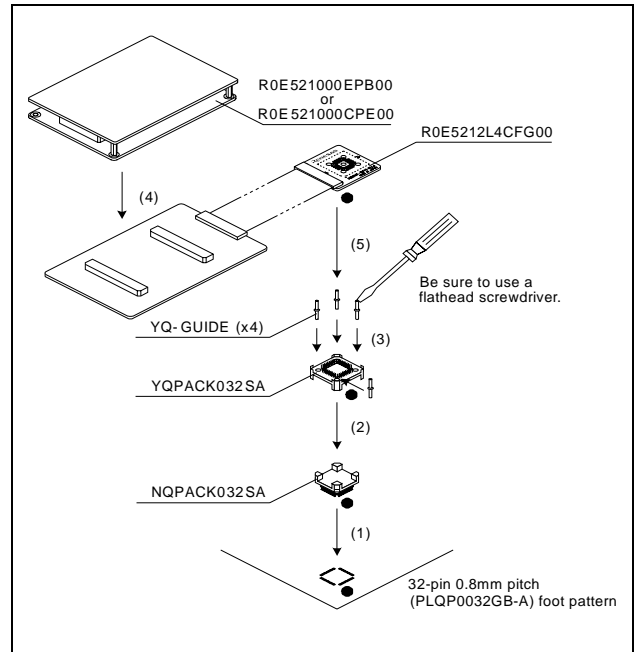

Figure 3 Connection procedure of the R0E5212L4CFG00
5. Connection Procedure (See Figure 3)